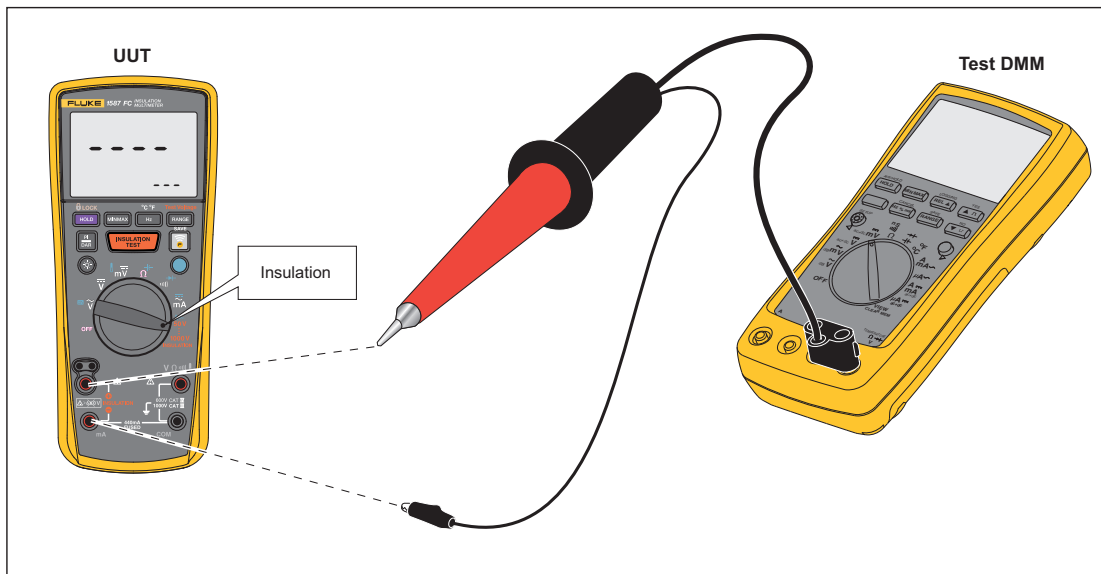

Figure 7. Source Voltage Accuracy Test
2. Connect the input of HV Probe to the INSULATION output terminals on the UUT as shown in Figure 7.